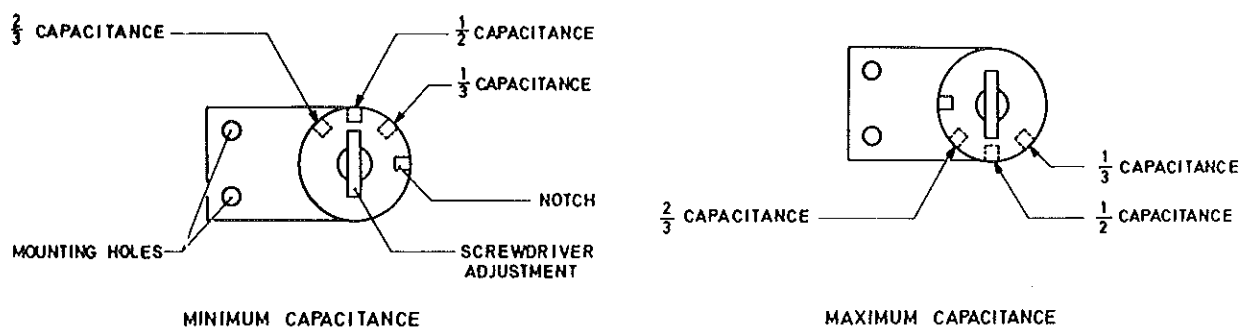

Fig. 2 Ceramic trimmer capacitors
- (1) Ensure that the OFF-ON-NB-CAL switch is set to OFF.
- (2) As in the previous tests, connect the wattmeter to J1 (R.F.OUT) as an r.f. dummy load.
- (3) Set the four (A)3.8 trimmer capacitors (Table 1) to two-thirds maximum capacitance (fig. 2).
- (4) Set the other 15 trimmer capacitors listed in Table 1 to half-maximum capacitance (fig. 2).
- (5) Set the OFF-ON-NB-CAL switch to ON and allow approximately 15 min warm-up period.
- (6) Set the BAND switch to 3.6(2A), the tuning dial to 100, and EXCITER TUNING control to 2.1, the EMISSION switch to LOCK, the meter switch to GRID and the MIC GAIN control to OFF.
- (7) Adjust the MIC GAIN control to obtain grid current meter reading of approximately one-quarter full-scale.
- (8) Set the meter switch to PLATE and tune the power amplifier in the normal manner by means of the P.A. TUNING and INCR LOAD controls. Return the meter switch to the GRID position.
- (9) Locate the tuning cores of T4, T3, L10, L13 and L14. These transformers and inductors are on the top of the chassis alongside the EXCITER TUNING shaft. T4 is at the front and L14 at the rear.
- (10) Adjust the tuning cores of T4, T3, L10, and L13 for peak grid current meter reading. Reduce the MIC GAIN control setting, as necessary, to maintain the meter reading at not more than one-quarter full-scale. Do not adjust L14.
- (11) Turn the MIC GAIN control fully counter-clockwise (OFF).
- (12) Set the band switch to 7.0(1B), the tuning dial to 150 and the EXCITER TUNING control to 3.6.